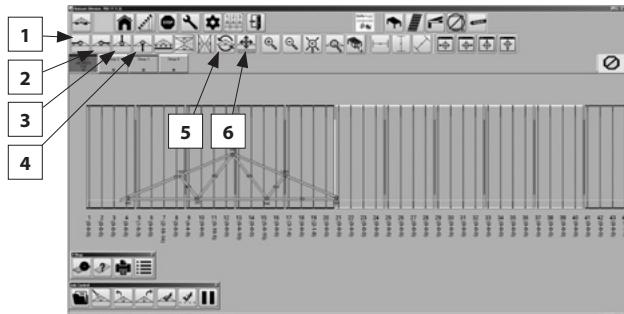
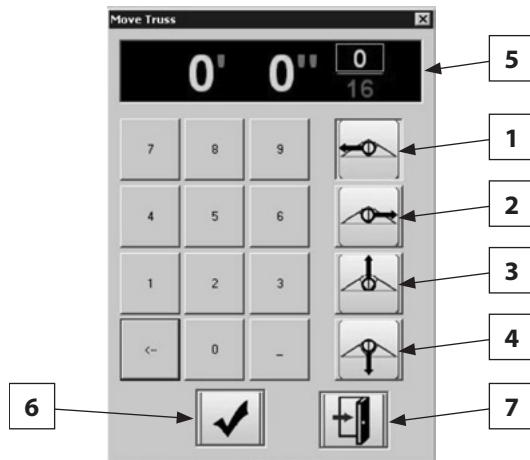

Figure 33
Figure 38
Once a truss is selected from the Select Truss screen, the software will advance to the Truss Setup Screen (Main screen with truss loaded) (Figure 33).
To re-position the truss, use the buttons bellow which can be found on the Main screen (Figure 33)
1. Click Rotate Truss icon form the Truss Setup Screen (Figure 33)
If jogging the truss does not resolve the setup error, click the Move Truss button (Section 3.3) on the Truss Setup Screen (Figure 33) to open Move Truss screen (Figure 38).
To move a truss to an exact location using Move Truss screen follow the steps below referring to Figure 38: